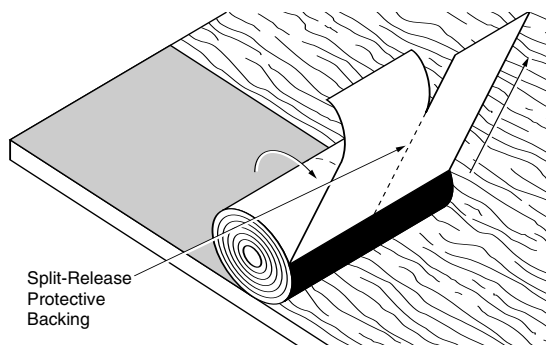

Figure 5-5: Application using the "Roll-Out" Method.
- Beginning with the already peeled release film, continue to peel both sections of film from the roll, pulling the roll parallel to the eaves (Figure 5-5). Be sure the WinterGuard lays flat and is sticking well.